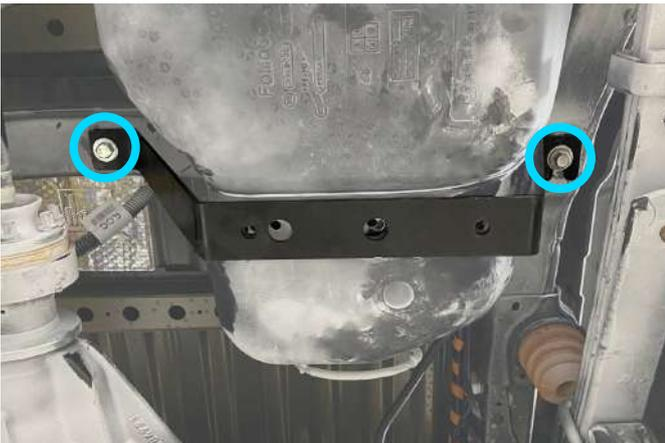

Fig. 7
5. Install the rear mount bracket (item 3) and fix on installed bolts M10x25 and washers 10 from step 4 and OE bolt, as shown in fig.7.